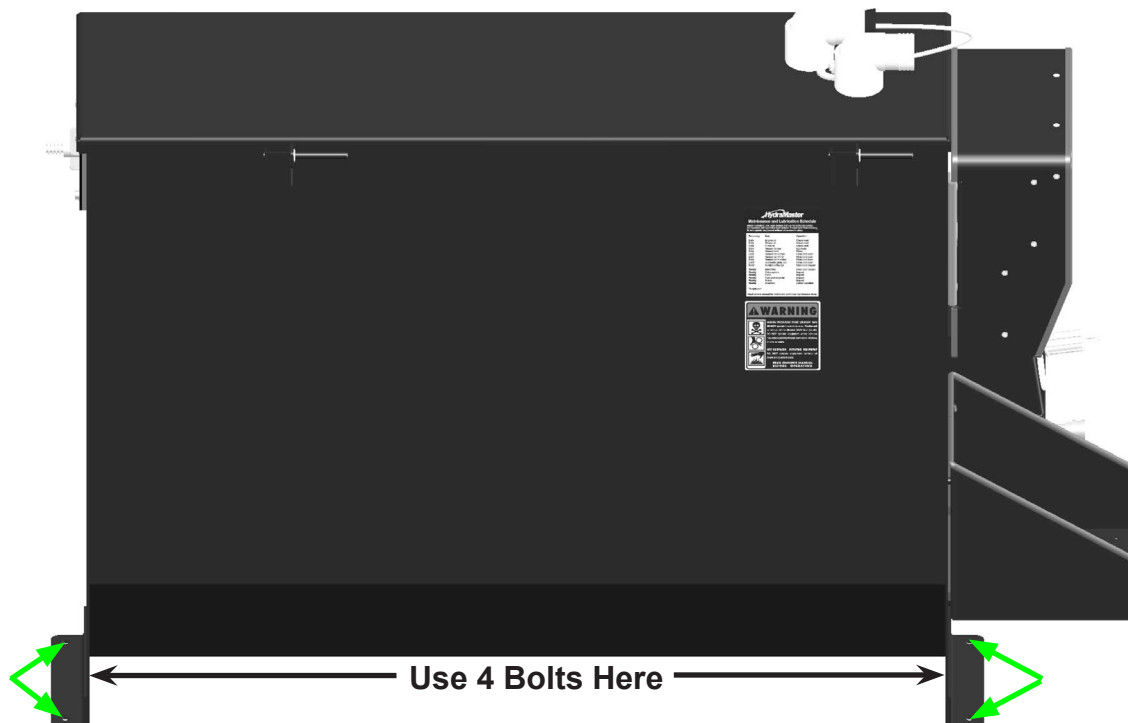
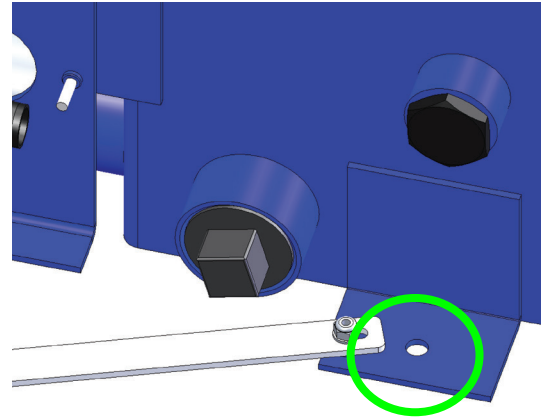

Figure 57. Mark Hole Locations for Recovery Tank - Rear of Tank
Figure 58. Mark Hole Location for Recovery Tank - Front of Tank
2. Mark the positions of the 4 Recovery Tank bracket holes (see Figure 57).
4. Use the 5 bolts from the kit to secure the Recovery Tank to the floor - 4 on the rear of the Recovery Tank (see Figure 57) and 1 towards the front of the tank (see Figure 58).